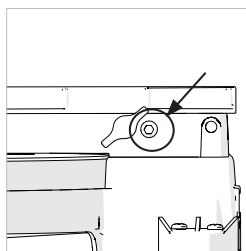

Fig. 14b
- Loosen the machine screw (**Fig 14b**) with the supplied M5 hex key.